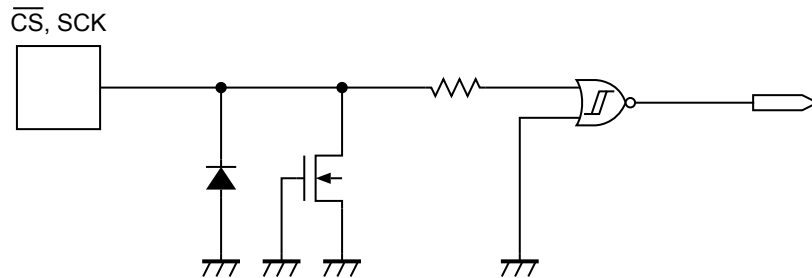

Figure 21  $\overline{\text{CS}}$ , SCK Pin
**Figure 21** and **22** show the equivalent circuits of input pins in S-25C320A/640A. A pull-up and pull-down elements are not included in each input pin, pay attention not to set it in the floating state when you design.